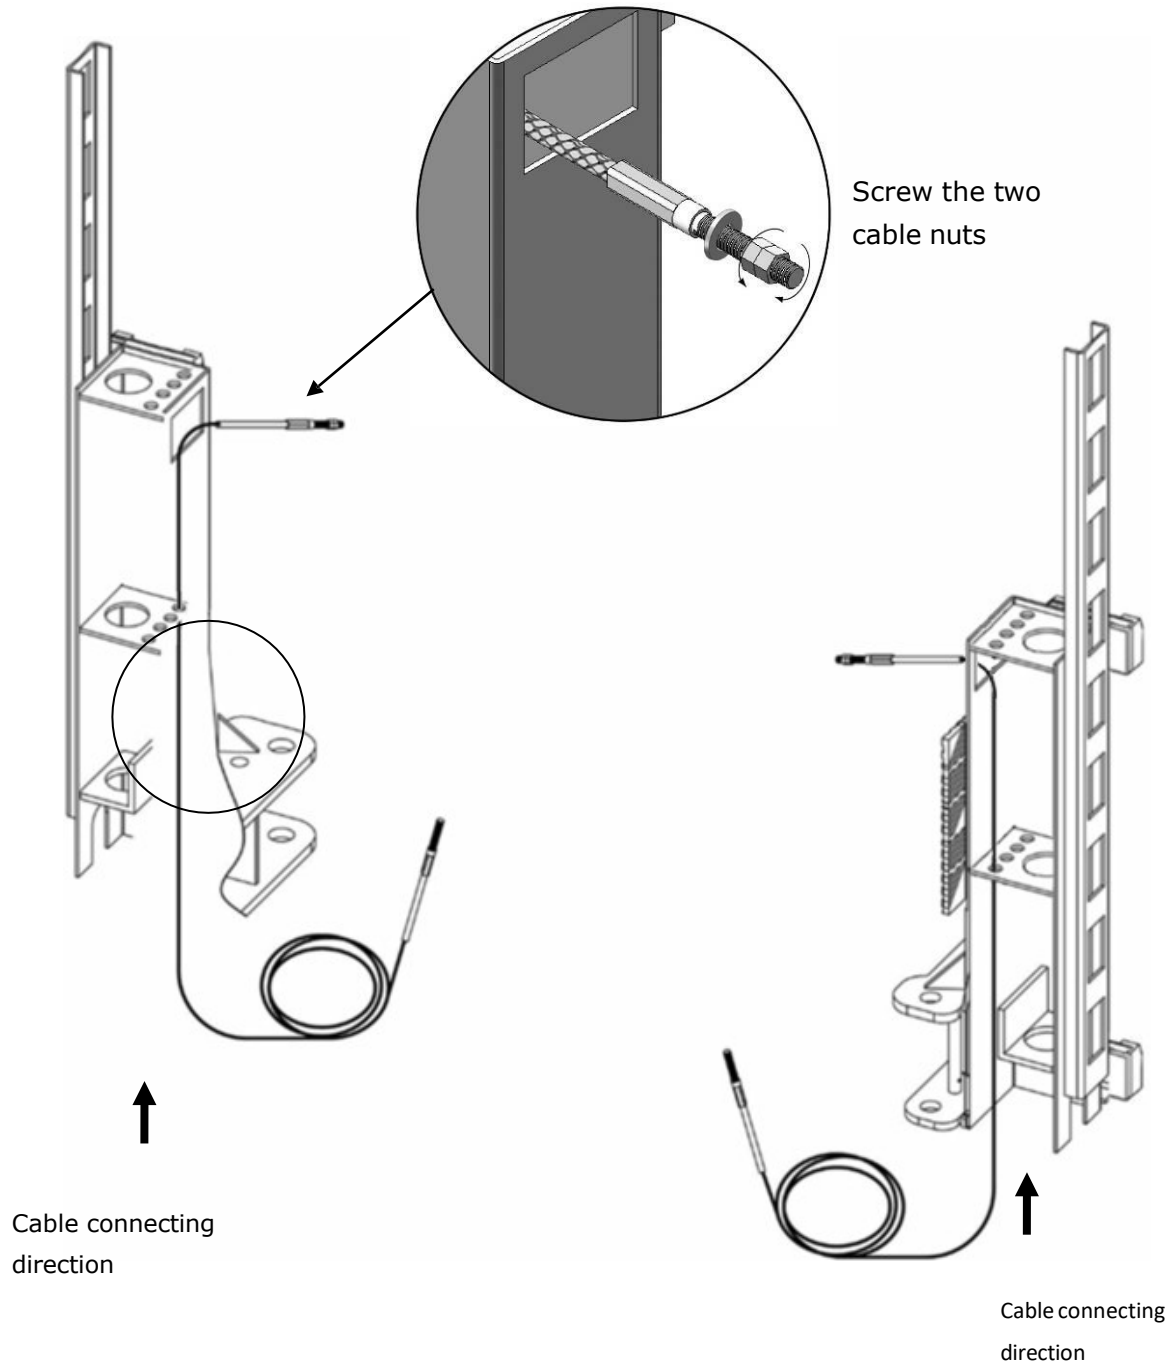

Fig. 27
1.1 Take out the carriage's plastic cover, cable pass through from the bottom of the carriages and be pulled out from the open of carriages, then screw the two cable nuts (See Fig. 27).